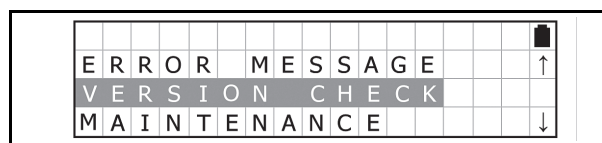

Figure 32 Function Selection Screen 5
2. Select “VERSION CHECK” from the Function Selection Screen and press the OK Key to select it (See Figure 32).